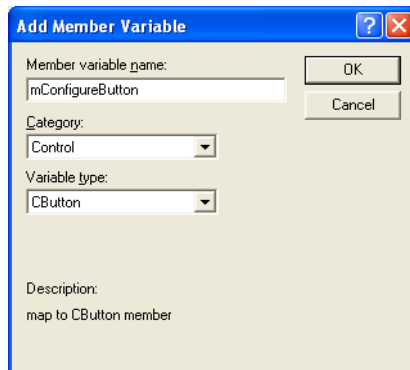

Figure 49 Adding a Member Variable with MFC ClassWizard
- For each Control ID, you must add a member variable. To add a member variable, double-click the Control ID and complete the form. Figure 49 shows the completed form for **IDC_BUTTON_CONFIGURE**.